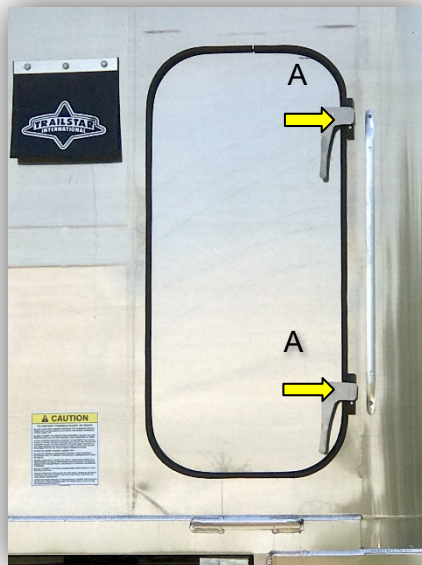

Figure 7-3 Man Door
Your trailer can be equipped with a bulkhead man door See figure 7-3. Be sure latches (A) are secured before loading or operating trailer